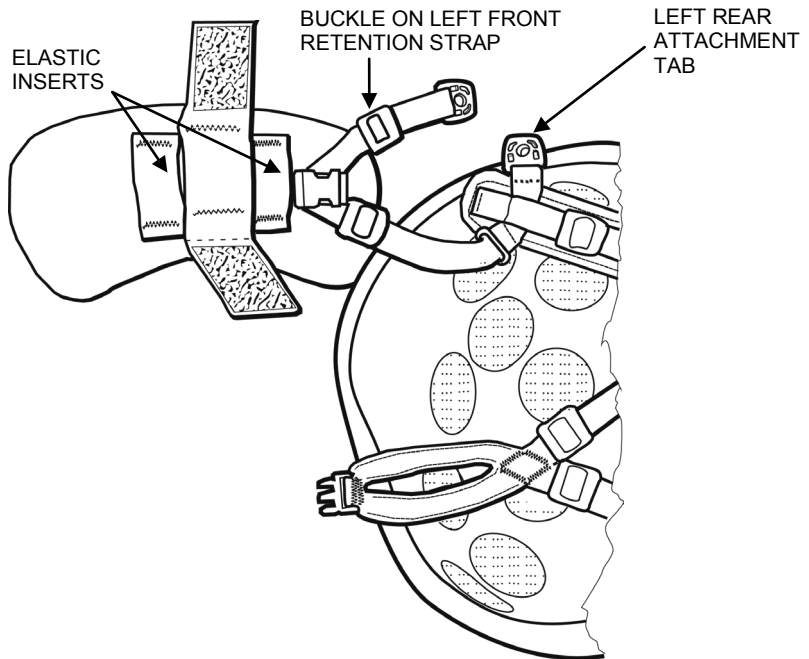

Figure 8. Thread Strap Through Elastic Insert on Ballistic Nape Pad.
2. Thread the buckle on the left front retention strap through the elastic insert on the right side of the ballistic nape pad (Figure 8).